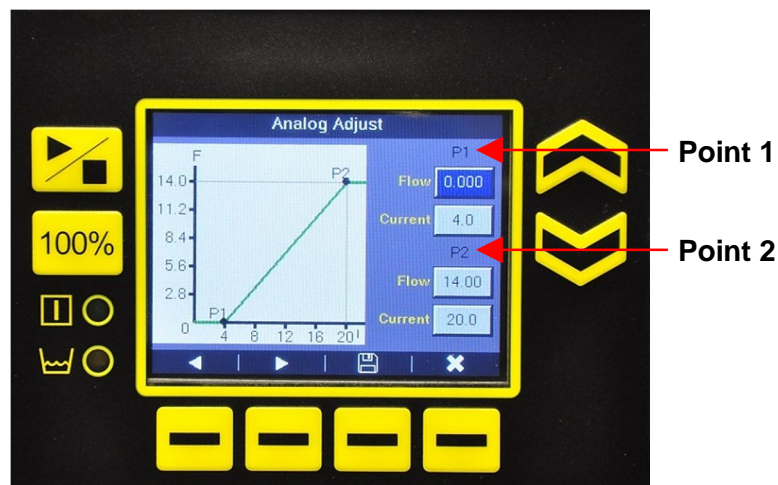

Figure 2: Analog Adjust
- Figure 2: Analog Adjust 6
To configure the analog mode input parameters, press the **Up** or **Down** buttons to access the analog adjust screen (Figure 2).